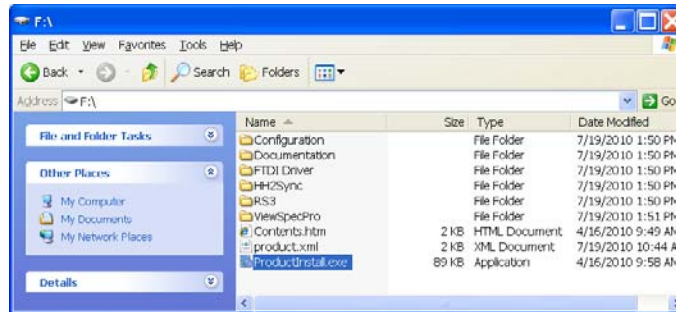

Figure 3-2: Files on USB drive
- Step 1 Insert the USB flash drive that came with the HandHeld 2 into a USB port on the computer. View the contents of the USB flash drive, which should include various software installation files (Figure 3-2). Double click on the file **ProductInstall.exe**.